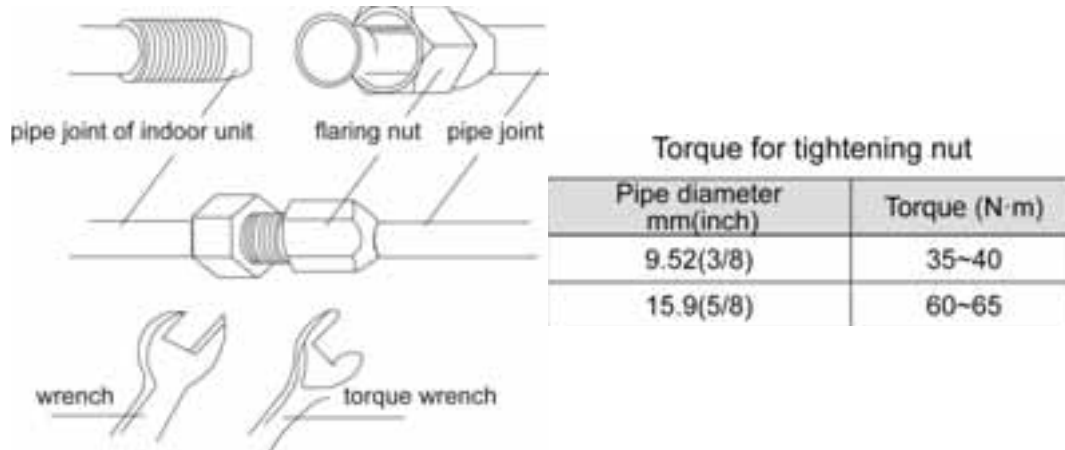

Fig.4.2
- (1) Align the flaring port of copper pipe to the center of screwed joint and then tighten the flaring nut by hand.
- (2) Tighten the flaring nut with torque wrench as shown in Fig. 4.2.